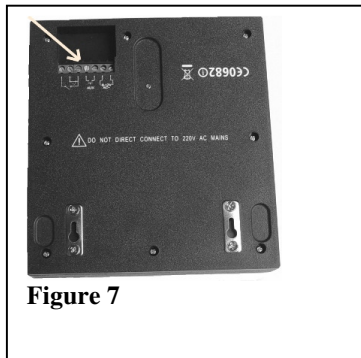

Figure 7
3. If an electric solenoid door release is used, refer to figure 7.